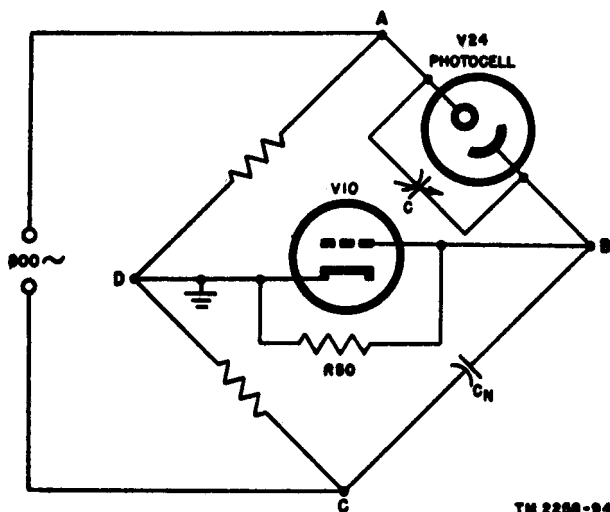
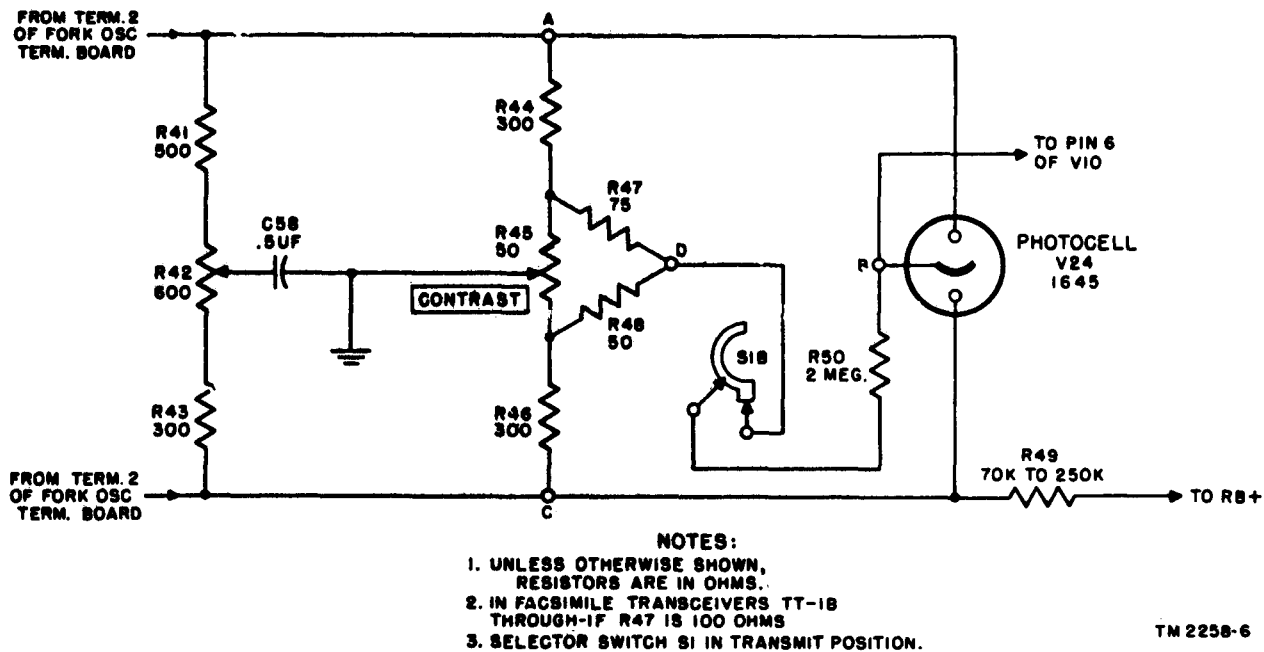

Figure 47. Simplified bridge modulator circuit.
Figure 48. Photocell bridge modulator circuit of Facsimile Transcievers TT-1/TXC-1 through TT-1C/TXC-1.
nism. During normal operation, with the PHASE switch released, cathode current of V4 flows through the phasing magnet coil associated with trigger tube V16 and also through the series resistor combination, R66 and R67 (stage V13), which is in parallel with this coil. (Refer to figures 48 and 49 and the over-all schematic diagrams of Facsimile Transceivers TT-1/TXC-1 and TT-1A/TXC-1 (figs. 163 and 164).) The flow of current through the coil holds the armature against the phasing magnet so that it does not actuate the clutch mechanism used in the phasing operation. The flow of current through R67 adds to the bias of tube V13, which requires bias beyond the cut-off value. During the phasing operation, the phasing magnet is disconnected from the cathode circuit of V4, and the armature is released. To compensate for the removal of the phasing magnet coil from the cathode circuit, resistor R40 is connected in parallel with the series combination, R66 and R67, during the phasing operation. Capacitor C27 is the cathode bypass capacitor for tube V4. Screen and plate voltage is applied from the +450-volt supply through screen
(figs. 47,48, and 49)
Photocell tube V24 is the heart of the photocell bridge modulator circuit, which is used only on transmitting. Tube 1645 is used as the photocell in Facsimile Transceivers TT-1/TXC-1 through TT-1C/TXC-1. Tube 5652 is used as the photocell in Facsimile Transceivers TT-1D/TXC-1, TT-1E/TXC-1, and TT-1F/TXC-1. The photocell and its associated circuit (fig. 47,48, and 49) cause amplitude modulation of the 1,800-cycle signal supplied from the fork oscillator unit. Amplitude modulation follows the lights and shadows on that portion of the transmitted copy being scanned. After modulation of the 1,800-cycle signal is accomplished in the photocell bridge modulator circuit, the modulated signal is fed to the grid (pin 6) of V10, the first signal amplifier. Tube V10 and the following signal amplifiers not only amplify the modulated signal, but use a series of differentiating circuits (small coupling capacitors and large grid resistors) to remove undesirable low-frequency signal components generated in the modulator circuit. Photocell tube 5652 in Facsimile Transceivers TT-1D/TXC-1, TT-1E/TXC-1, and TT-1F/TXC-1 permits the use of larger values of coupling capacitors than photocell tube 1645, which was used in previous models. The circuit that uses tube 5652 is inherently balanced for the modulating frequency, and therefore requires no discrimination against low frequencies in its amplifier strip as required in previous models.
modulator circuit is shown in figure 47. In the simplified circuit, the 1,800-cycle carrier signal from the fork oscillator unit is fed to points A and C of the resistance-capacitance bridge. Output from the bridge is the voltage developed across R50, between points D and B. This voltage is the grid to cathode or input voltage of V10. A small capacitance (C.) exists between the cathode and active anode of V24, and this is effectively balanced out by the neutralizing, capacitance (CN), which is the capacitance existing between the cathode and the second or neutralizing anode within the photocell. When the bridge is perfectly balanced, there is no output of 1,800-cycle signal to be applied to V10; but when increased light shines on the photocell, it causes increased electron emission from the cathode, producing a resistive unbalance of the bridge and a greater 1,800-cycle signal.
- (1) Facsimile Transceivers TT-1/TXC-1 through TT-1C/TXC-1 (fig. 48). The output of the bridge (the voltage across, R60) is a varying dc signal that consists of the keying or modulating frequency which is superimposed on the 1,800-cycle carrier frequency. This varying dc signal is always of such polarity that the grid end of R50 is positive with respect to the other end. This is caused by the increased emission from the photocell when increased light strikes it. The conven-
(a) *Resistor networks.* Between points A and C, figure 48, where the unmodulated 1,800-cycle carrier signal is applied, are two resistor networks; one consists of R41, R42, and R43 in series and the other consists of R44, R45, and R46 in series. Resistors R47 and R48 are in series across R45. The first of these networks includes variable resistor R42, which serves as a neutralizing control and is used in balancing out the capacitive effect of the photocell. Its effect on the circuit is the same as making  $C_n$  (fig. 47) variable. Resistor R42 is an alignment control and is located beneath the chassis of Facsimile Transceivers TT-1/TXC-1 through TT-1B/TXC-1 (figs. 128 and 129). In Facsimile Transceiver TT-1C/TXC-1, R42 is located on the floating panel behind the DB METER. This control is used to set the proper value to balance out the capacitive effect of the photocell when the photocell is changed; it is not used as an operating control. Capacitor C58 provides ca-